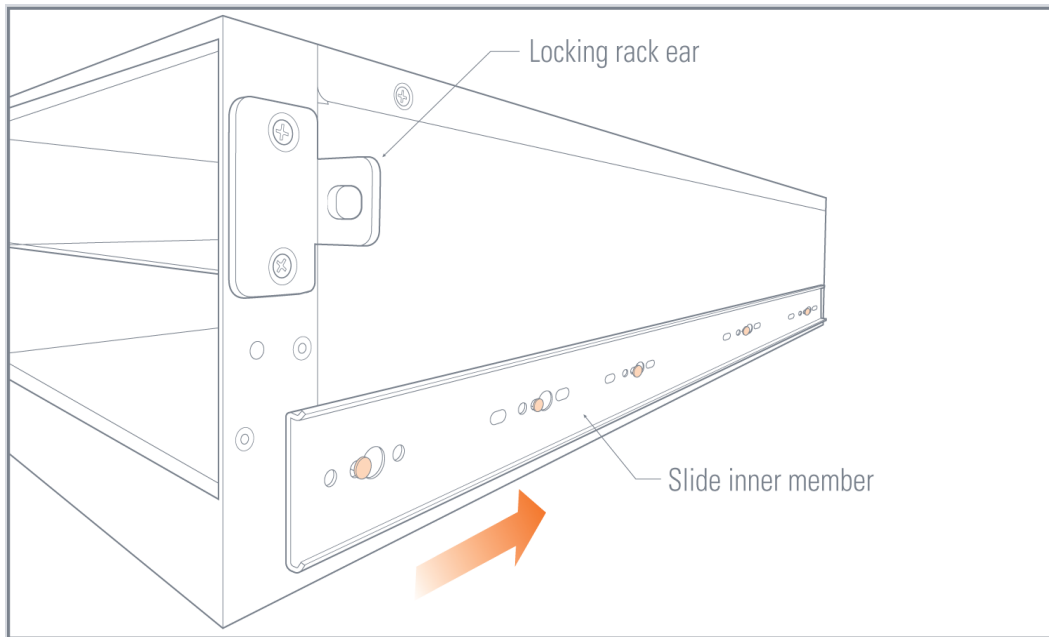

Figure 3: Slide Inner Member and Locking Rack Ear Installed on Chassis
5. Attach the left and right inner members of the mounting slide to the chassis and attached the locking rack ear to the chassis. Refer to Figure 3: Slide Inner Member and Locking Rack Ear Installed on Chassis on page 54.